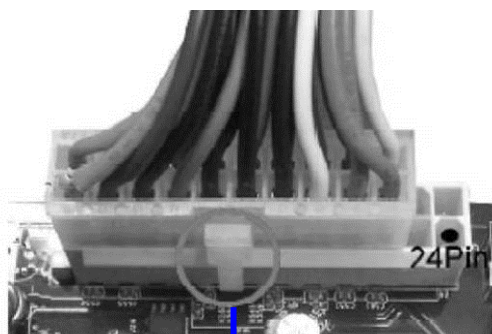

Figure1: 20-pin power plug
- ** If you are using a 20-pin power plug, please refer to Figure1 for power supply connection. Power plug form power supply and power connectors from motherboard both adopt key design to avoid mistake installation. You can insert the power plug into the connector with ease only in the right direction. If the direction is wrong it is hard to fit in and if you make the connection by force if is possible.